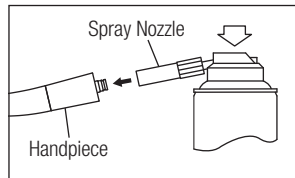

Fig. 9
- 3) Insert the Spray Nozzle into the rear of the handpiece. Hold the handpiece and spray for approximately 2-3 seconds. Apply lubricant until it expels from the handpiece head for at least 2 seconds (Fig. 9).
- 3) Lubricate handpiece by using PANA SPRAY Plus or other approved lubricant (Fig. 9) or Brasseler USA automatic handpiece cleaning and lubrication system.